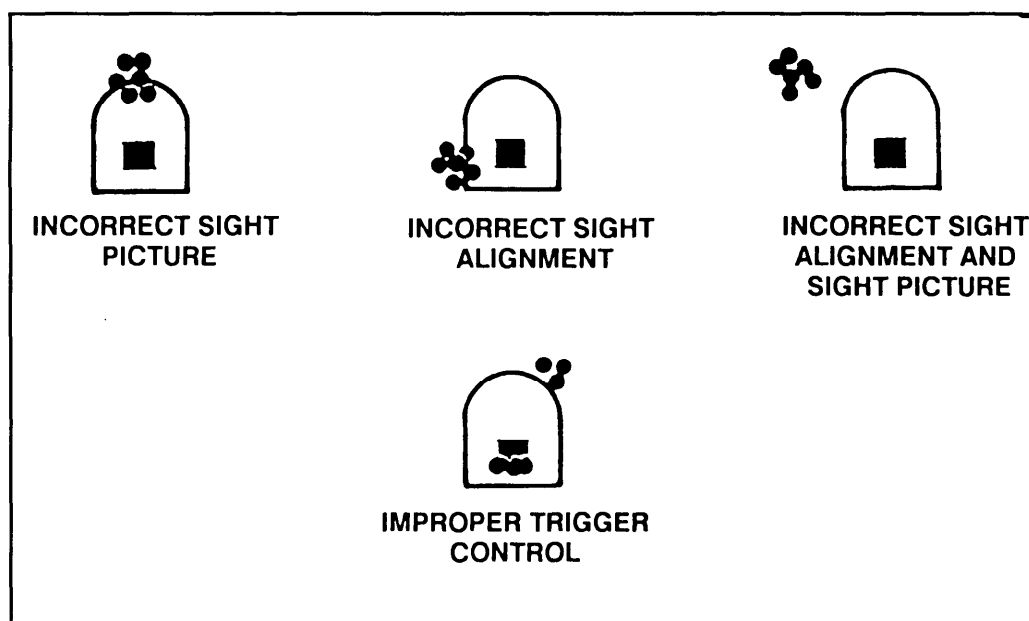

Figure C-5. Common errors found on the basic MG target.
(2) Targets are analyzed and scored to determine the gunner's proficiency and to see if more training is needed in any of the fundamentals of M2 gunnery. During firing with a properly zeroed weapon, a target is best analyzed by considering the common errors of M2 gunnery (Figure C-5).